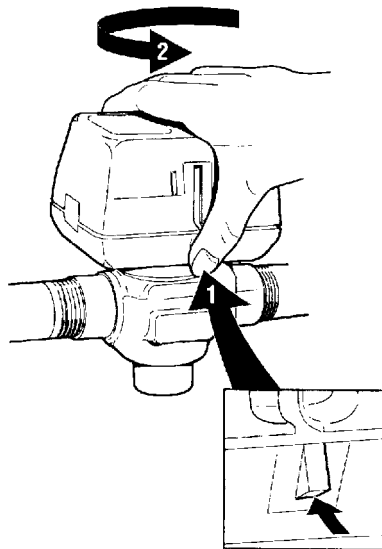

Fig. 11. Latch mechanism
- The actuator head is automatically latched to the valve (see fig. 11.) To remove lift up on the latch mechanism located directly below the red manual open lever.